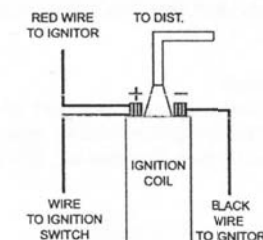

FIGURE 3
3. For installations that use a primary ballast resistor, connect the Ignitor red wire to the ignition switch side of the resistor. (See Figure 3).